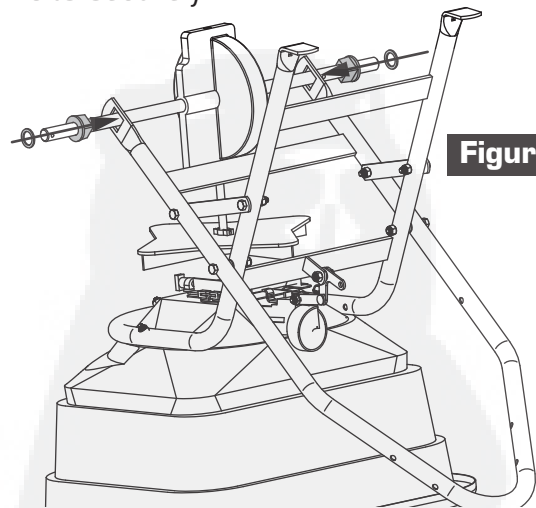

Figure 4
4. Install both Axle Bearings into the square holes as shown in Figure 4. Install one Washer onto each side of Axle.